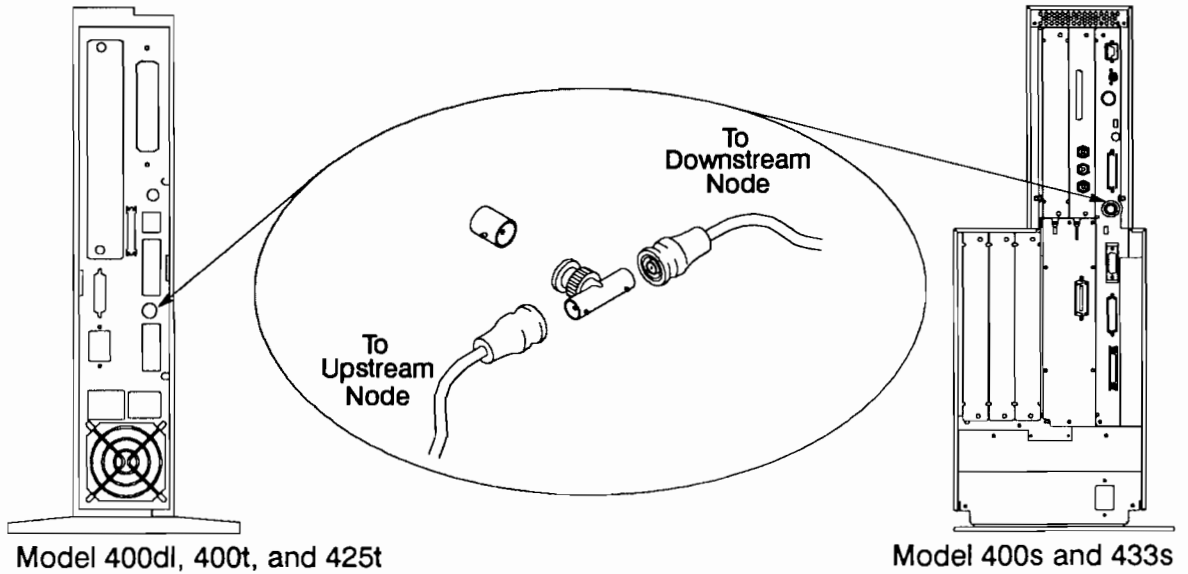

Figure 7-10. Connecting 802.3 Network Cable Ends to the T-Connector
2. Connect the ends of the network cable onto the T-connector as shown in Figure 7-10. Turn the sleeves clockwise one quarter turn until they stop.